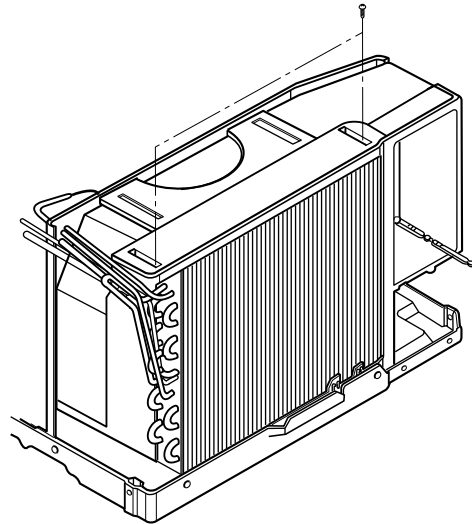

Figure 16
6. Re-install the component by referring to notes. (See Figure 16)